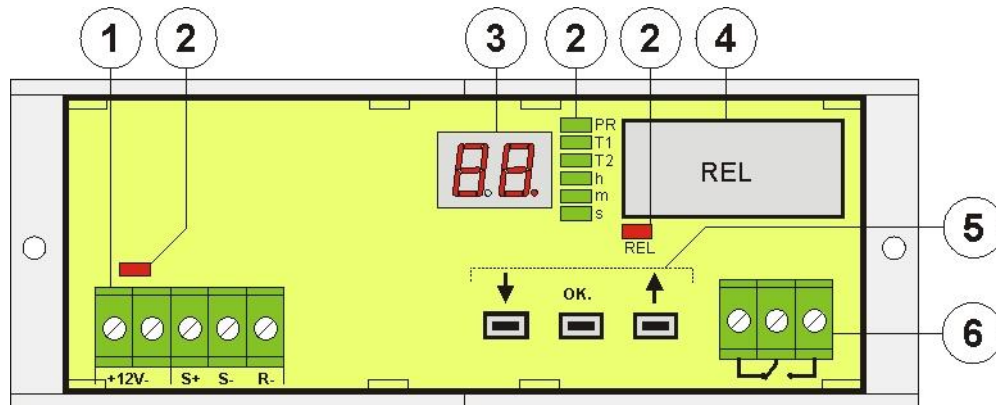

Fig. 1. The module's view.
Number [Fig. 1]	Description
①	Connector: +12V- - the module's power supply, DC voltage S+ - control input supplied by the positive power supply S- - control input activated by negative power supply (ground) R- - reset input activated by negative power supply (ground)
②	LEDs – optical indication red – supply voltage REL – ON, relay on PR – blinking – programming mode, ON – previewing the current mode T1 – time indication T1 T2 – time indication T2 h – hours indication (0-99h) m – minutes indication (0-59m) s – seconds indication (0-59s)
③	LED display.
④	Relay
⑤	Buttons ↓ - Decreasing the parameter, move down one level in the menu ↑ - Increasing the parameter, move up one level in the menu OK. - Confirm the settings
⑥	The REL relay connector CAUTION! Connector pin-out in the figure 1 shows the potential-free status of the relay.